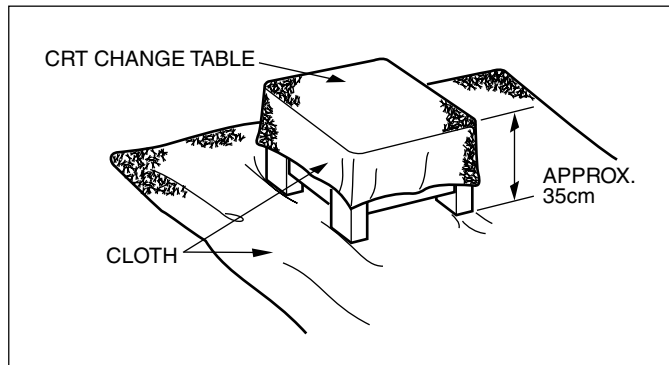

Fig. 4
- 1. Putting the CRT change table on soft cloth, the CRT change table should also be covered with such soft cloth (shown in Fig. 4).